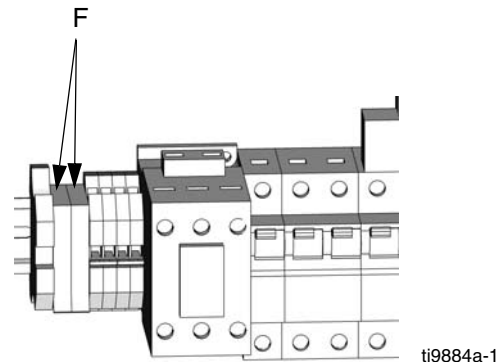

FIG. 8. Fan Fuses
3. Check fuses (F) at left of breaker module, FIG. 8. Replace if blown. If good, continue with step 4.
4. Refer to electrical diagrams. Disconnect fan wires from fuses (F).